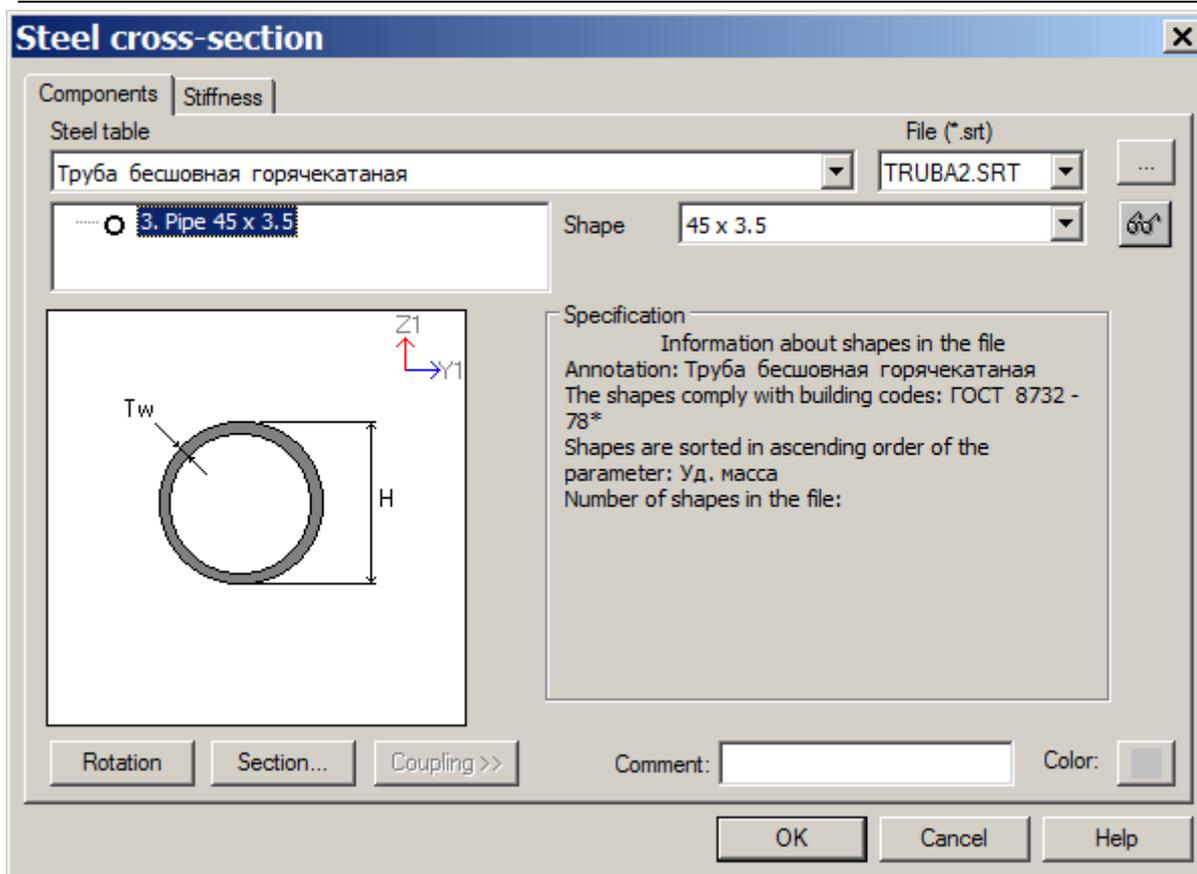

Figure 5.10 Steel cross-section dialog box
- ⇒ In the **Steel cross-section** dialog box (see Fig.5.10), specify the following parameters for pipe section (for main elements - element 1, see Fig.5.1):